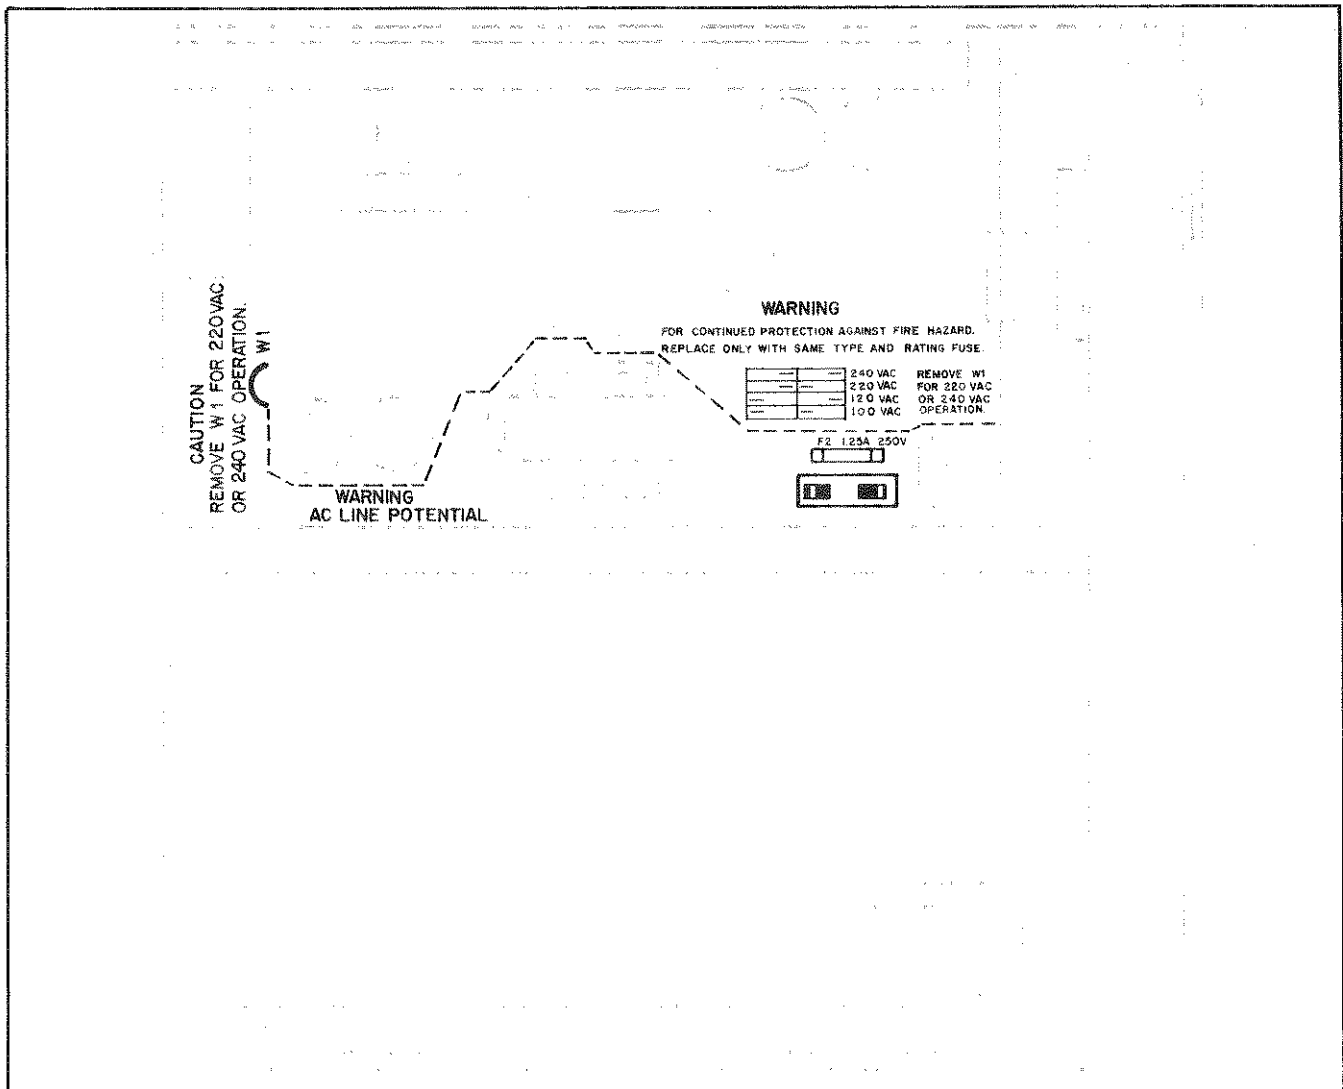

Figure 2-3. Line Voltage Selection Components
- b. The line voltage select switch is located just to the right of center of the instrument (as viewed from front), about five inches behind front panel (see Figure 2-3). Use a small-blade screwdriver to set the two switch sections to match the pattern silkscreened on p.c. main board as shown in Figure 2-3. For example, to set switches for 120V operation (as
c. The line voltage jumper W1 is located about 2-1/2 inches in front of rear-panel terminal block (see Figure 2-3). (A dashed line is silkscreened on A3 board from vicinity of S2 to W1). Jumper must be soldered in place for 120V operation, and must be removed for 220V or 240V operation.